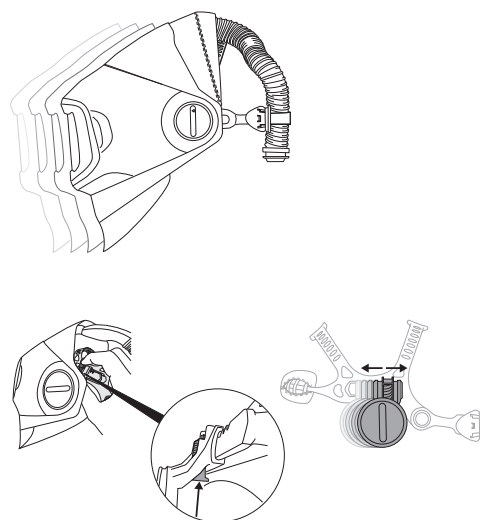

Fig. 5b
- To adjust the welding helmet in and out (closer and further from the face) there are two slides on either side of the head suspension. To unlock the slides, push up on the gray buttons with your thumbs and slide the welding helmet out or in, adjusting to your personal preference (Fig. 5b). This adjustment will help with safety glasses spacing and also magnification lens distance.